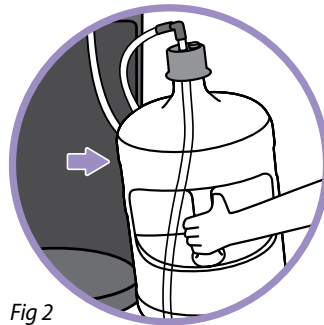

Fig 2
2. Remove the empty water bottle (Fig 2). Wipe interior cabinet with 70% rubbing alcohol or disinfecting wipes.